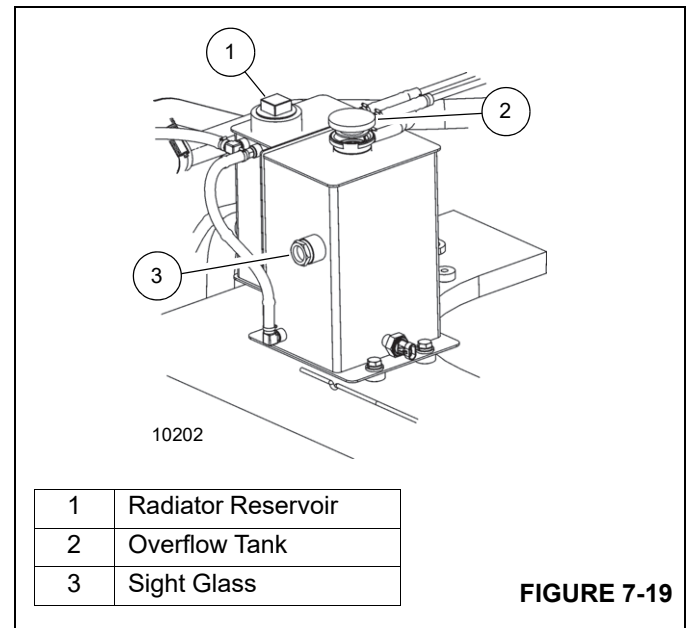

FIGURE 7-19
1. Loosen the radiator reservoir cap (1, Figure 7-19) and overflow tank cap (2).
2. Remove the radiator reservoir cap (1, Figure 7-19) and overflow cap (2).
3. Fill the radiator through the threaded opening for the radiator reservoir cap (1). Fill system with a 50/50 blended, fully formulated extended life antifreeze/coolant. Fill slowly. Flow exceeding 3 gpm (11.2 L/min) can give a false reading.
4. Fill the overflow tank (2) until the fluid level is above the sight glass (3).
5. Apply Loctite® 243™ or equivalent to the threads of the radiator cap (1). Install and tighten the radiator reservoir cap (1).
6. Install and tighten the overflow tank cap (2).